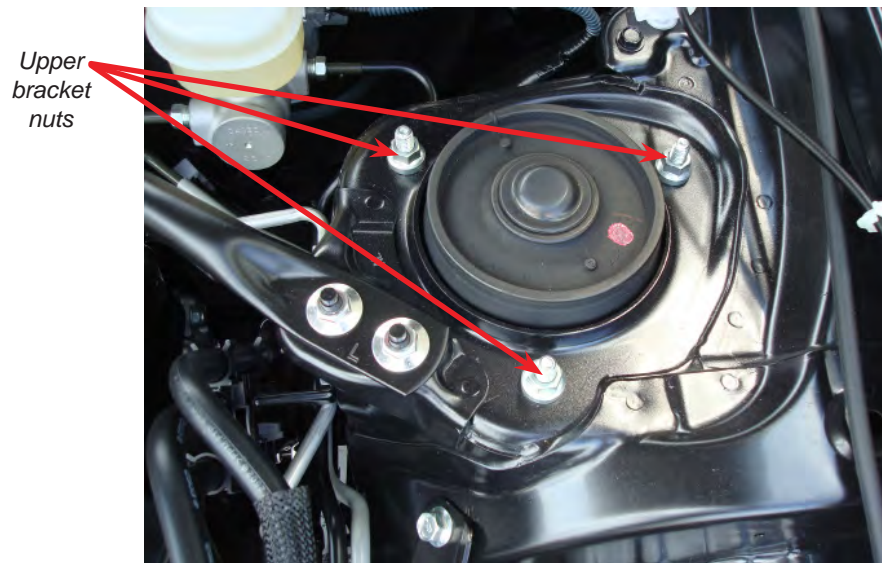

fig. 4
4. Unthread the three upper bracket nuts within the engine compartment and remove the strut from the vehicle (fig. 4).